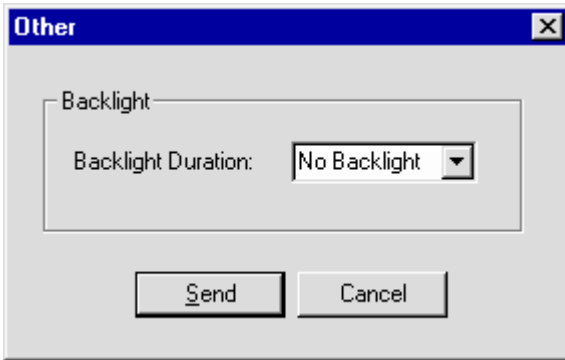

Figure 3-16: Instrument Parameters
2. In TRAKPRO Software, select **Parameters, Instrument Setup, Other**. The TRAKPRO software retrieves the current settings from the Q-TRAK Plus monitor and displays them in the dialog box displayed in Figure 3-16.